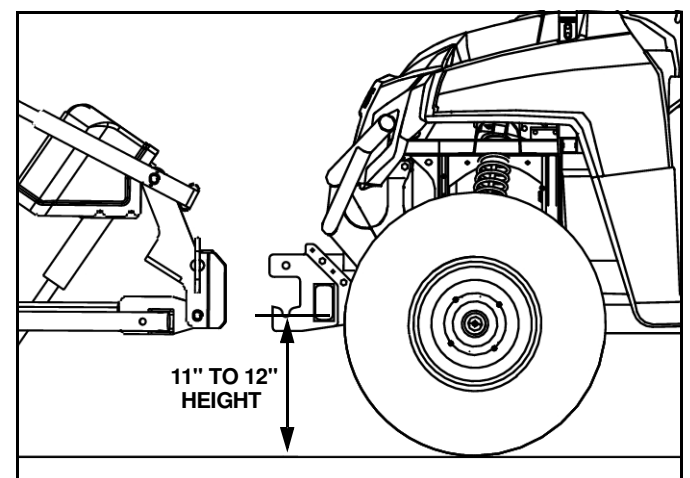

Figure 7
5. Align the UTV Mount (#1) with the holes in the Mounting Weldment (#2). Adjust the UTV Mount (#1) so that the center of the bottom slot is 11-12" off of the ground. (See Figure 7.)